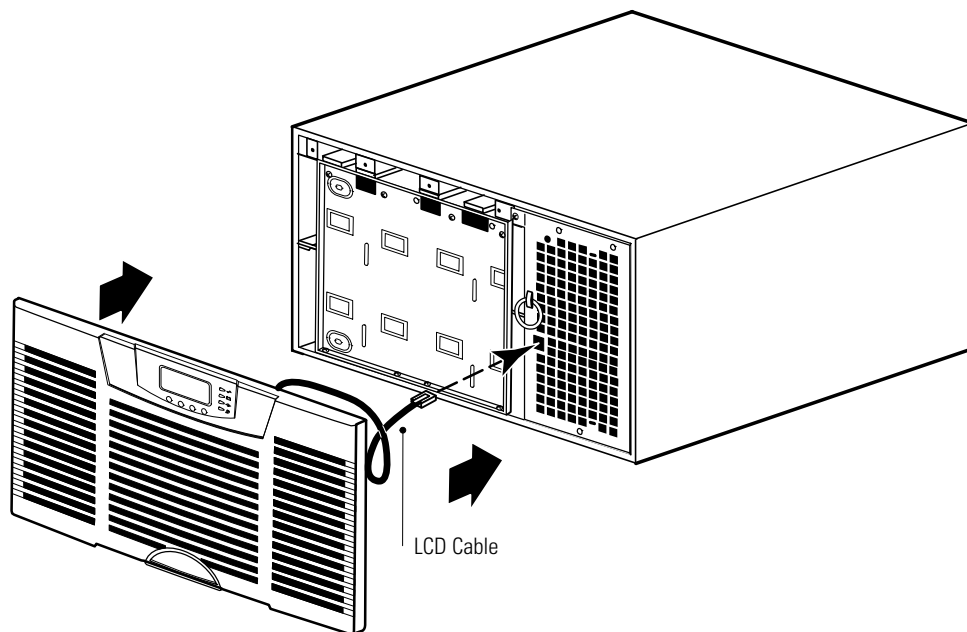

Figure 58. Replacing the UPS Front Cover
7. Replace the UPS front cover (see Figure 58):